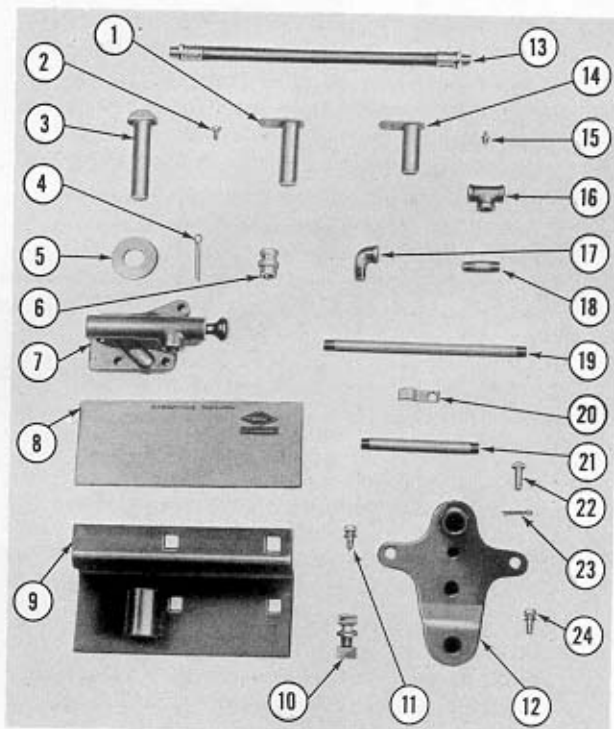

Figure 3
D.M.C. Bundle No. 194446 in the above list contains the parts listed below. One of each of these parts is shown in Figure 3.